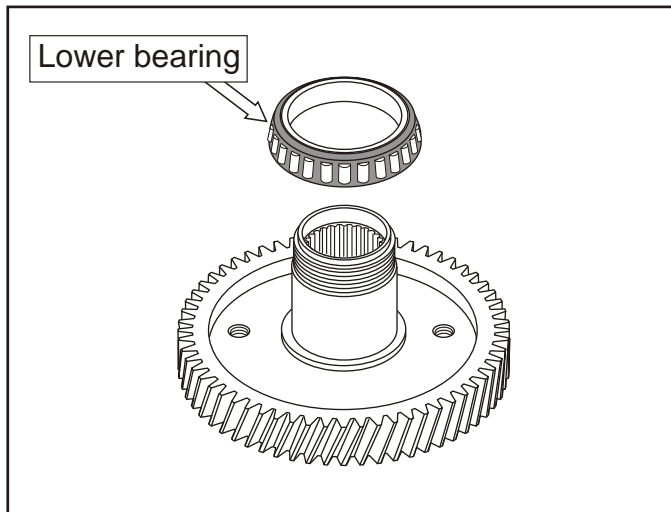

Figure 189
- 133. Using a suitable two jaw bearing puller, remove the rear bearing shown in Figure 189.